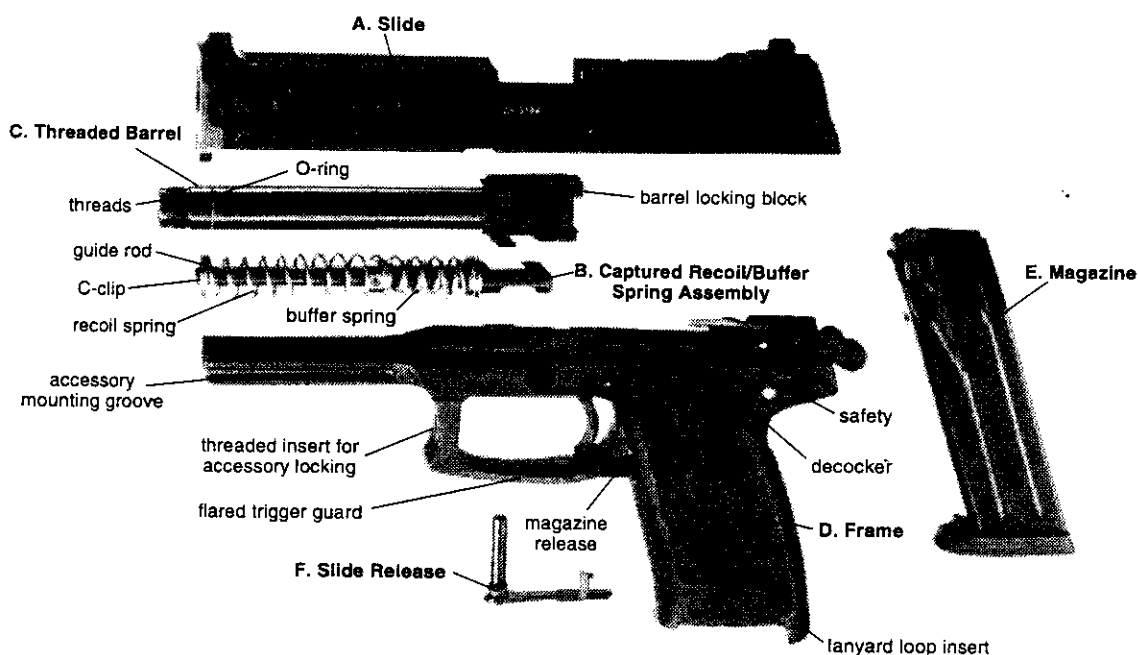

Figure 3 - Major Assembly Groups
1.4 Major Assembly Groups (See Figure 3)